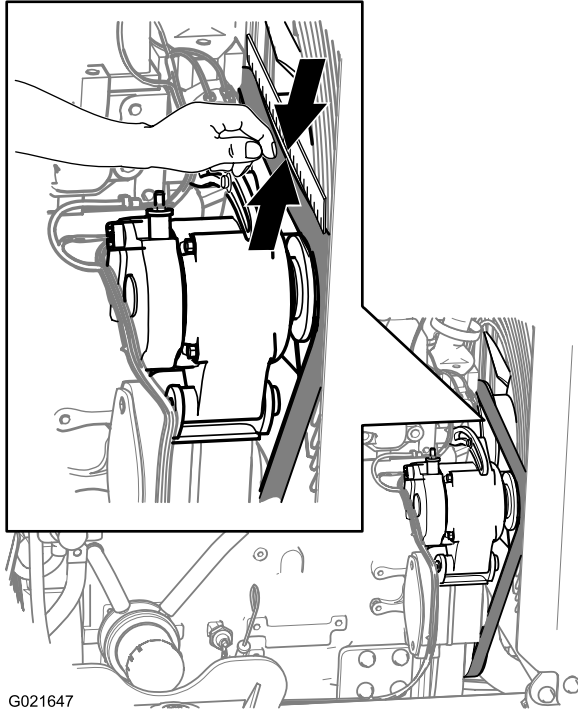

Figure 147
3. Inspect the belt for cuts, cracks, loose cords, grease, oil, twisting, or signs of abnormal wear (Figure 147).
3. Align a straight edge over the drive belt and across the pulleys as shown in Figure 147.
4. Press the belt down at the midway point between the fan pulley and the alternator pulley as shown in Figure 147.